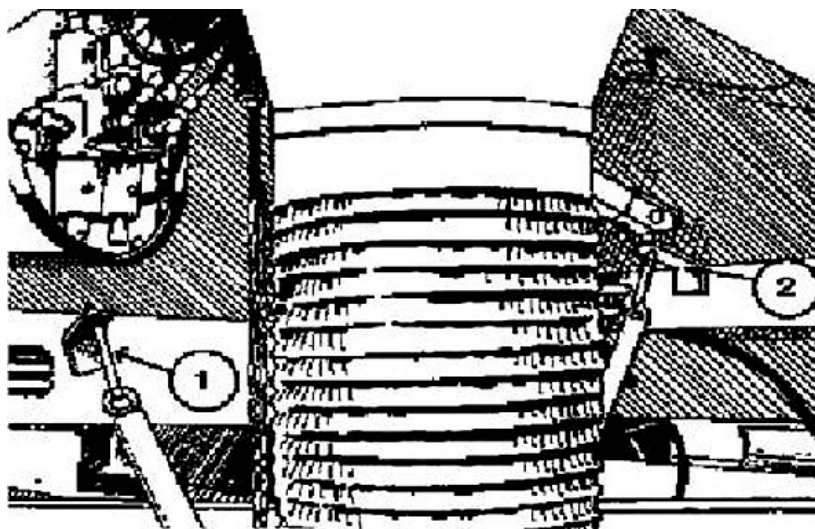

Figure 4-14. Pick-up head spring adjustment.
There are two main spring adjustments for the pick-up head (fig. 4-14, #1 and #2). Item one (1) shows the location of the front spring adjustment, while item two (2) identifies the rear spring adjustment. The purpose of these adjustments is designed to give the pick-up head a floating effect as it's dragged along the pavement. This serves the following two purposes: